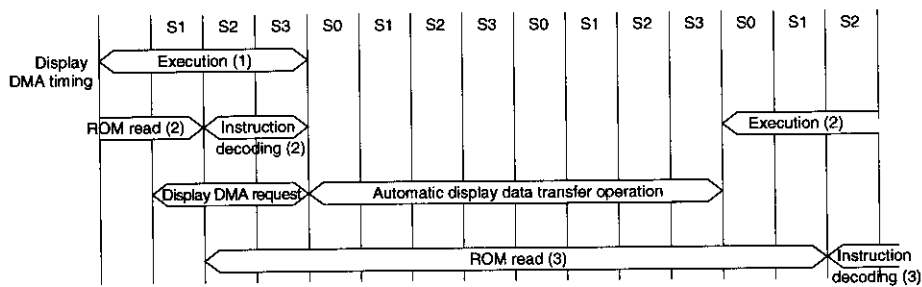

Figure 6-4-1 Timing of Interruption of Instruction Execution by FLP Display
- ① When data for one digit is automatically transferred from the FLP display RAM to the output port, execution of the user program stops for 2 machine cycles. That is, program execution stops for 1.91μs every 244μs or 488μs (when fosc=4.19MHz). The instruction execution timing in this case is shown in figure 6-4-1.